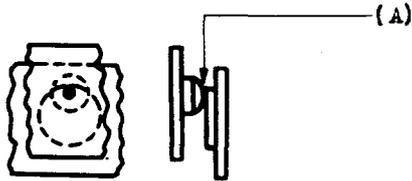

Fig. 2
2.05 Contact Alignment - Fig. 2 (A) - Contacts shall line up so that the point of contact falls wholly within the boundary of the opposing contact. Gauge by eye.